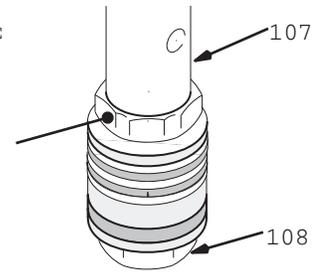

FIG. 5
6. Hand tighten the valve into the piston rod just until the nut (110) contacts the rod. See Fig 5.
7. Place the flats of the rod (107) in a vise.
8. CAREFULLY tighten the nut (110) against the piston rod to 30 ft-lb (40 N.m). See Fig 5. Use two wrenches to maintain the alignment mentioned in NOTE 3, to the left.